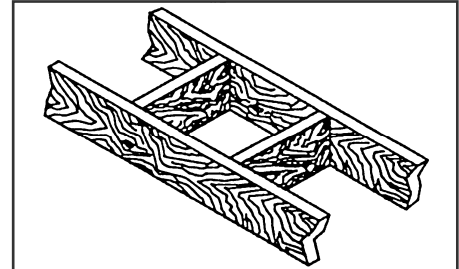

Figure 9
11. Cut and frame square holes in all floors and the roof to provide 2" (50 mm) of clearance between the chimney and any combustible material. Do not fill this 2" (50 mm) space with any material. (See Figure 9)